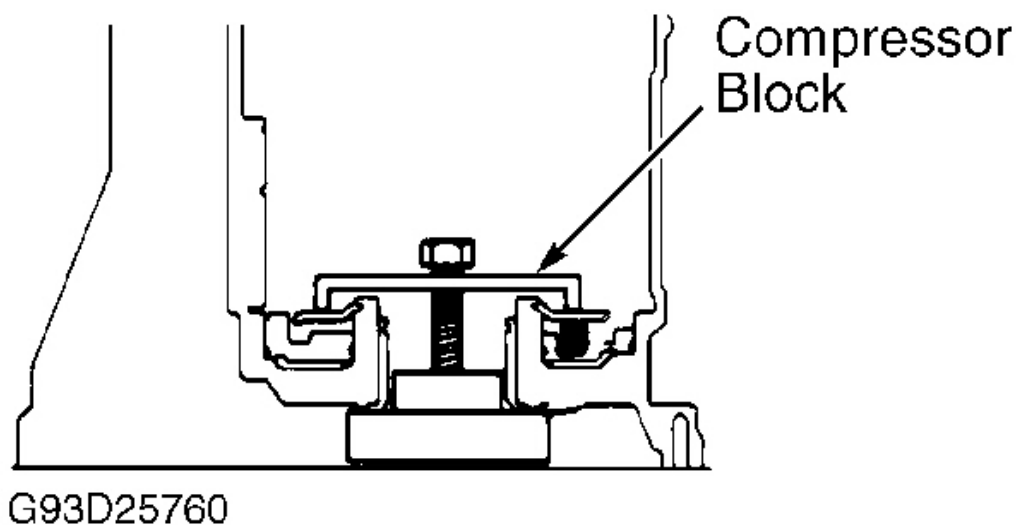

Fig. 16: Compressing 1st & Reverse Brake Piston Springs
18. Using appropriate compressor, compress 1st and reverse piston. See **Fig. 16**. Remove snap ring. Apply